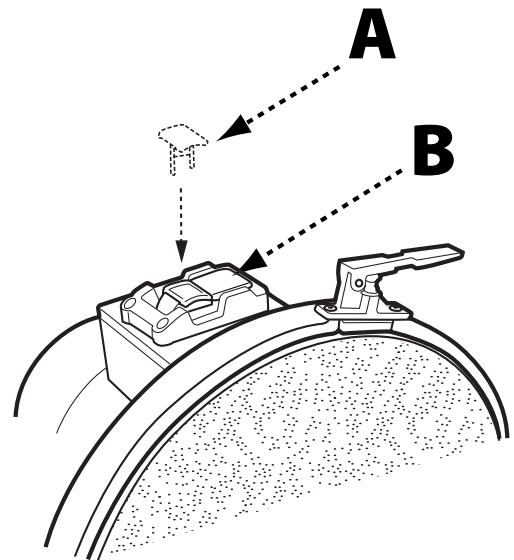

FIGURE 5
**NOTE:** The DELTA® 12" Disc Sander uses a Safety Key (A), shown in Figure 5. The Safety Key must be in place in order to operate the machine. Before attempting to turn on the sander, ensure the Safety Key is installed.
- The ON/OFF switch (B) is located on the top of the motor. To turn the sander "ON", move the switch toward rear of sander.
When the tool is not in use, the switch should be locked in the "OFF" position. This can be done by grasping the Safety Key (A), shown in Figure 5, and pulling it out of the switch. With the Safety Key removed the switch